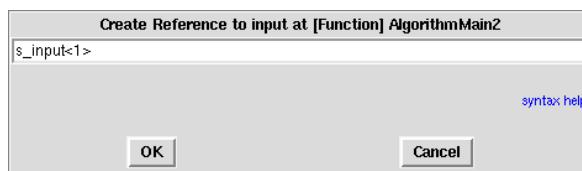

Figure 4.4: **Create Reference to int/input**
- drag and drop the sensor definition **int/input** from the **Definition list** to the `AlgorithmMain2` window → dialog window: `s_input<1>` (*cf.* figure 4.4) (it is a scalar),